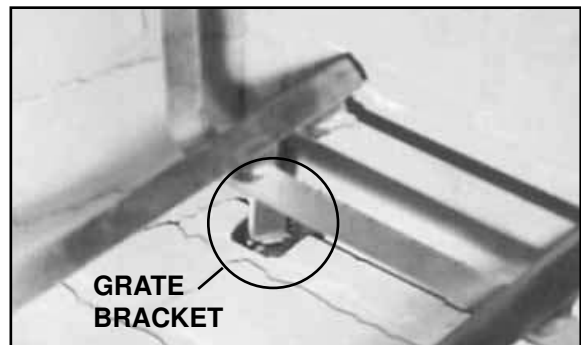

Figure 7.13 Grate Secured in Grate Bracket
- Place grate into grate brackets. See Figure 7.13.